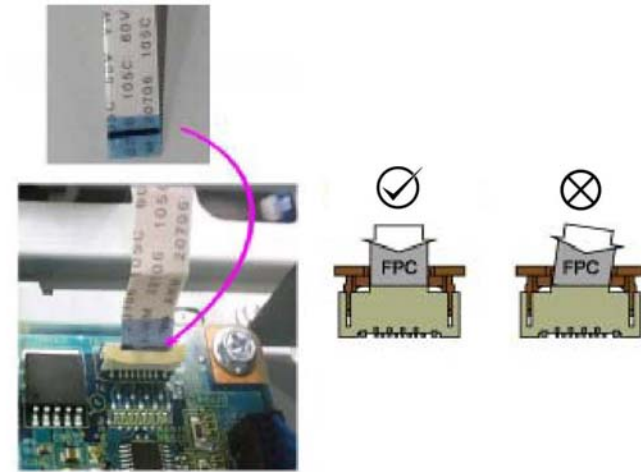

Figure 14 FFC LED cable
4. Be aware that when connecting the FFC LED cable, **Figure 14**: